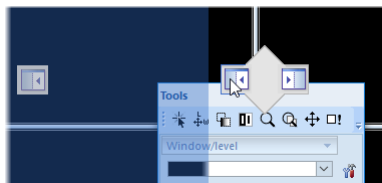

Figure 16 – Docking the Tools panel to the left edge
- at a new dock position - drag the panel's title bar and move the panel. While moving the tools panel, docking navigators  are displayed in the application window showing available docking positions for the panel. Moving the mouse cursor over any of the docking navigators highlights the new docking position (see Figure 16). To dock the panel, just release the mouse button while the cursor is placed over the navigator.